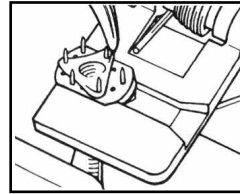

Figure 7
9. Take a bite of approximately one to two pin diameters of the vessel wall and intimal lining, evert 90 degrees and impale onto one pin. Proceeding in a triangular fashion, impale the vessel firmly upon every other pin, completing three pins (See Figure 7). Complete vessel placement on the ring by impaling the vessel upon the remaining three intermediate pins (See Figure 8). Ensure that both the vessel wall and the intimal layer are fully impaled upon each pin to reduce the risk of thrombosis. Should the vessel wall tear during impalement, remove the vessel, trim the end, and repeat the procedure. For examples of improper impalement of the vessel see Figure 9.